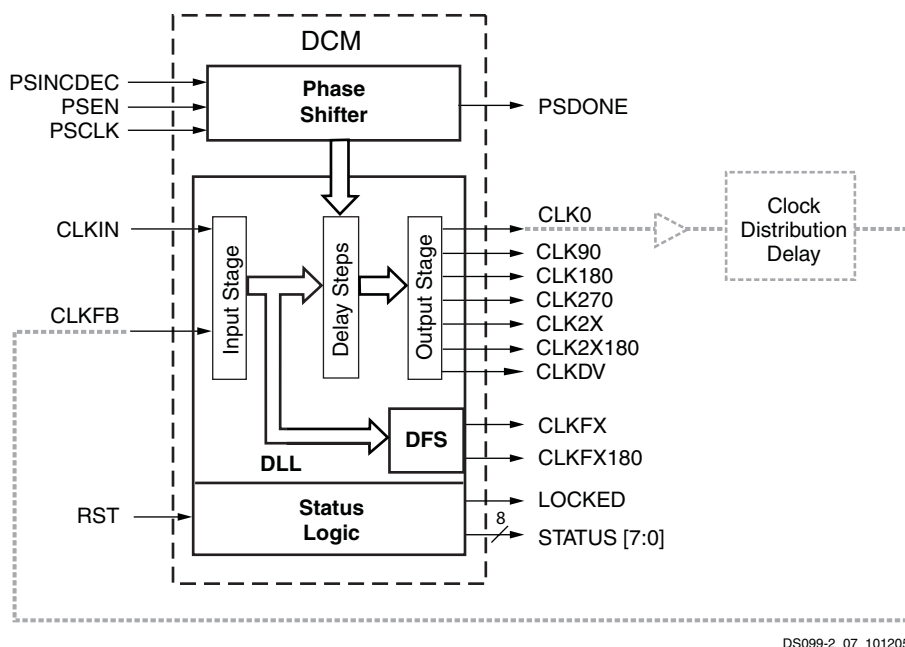

Figure 41: DCM Functional Blocks and Associated Signals
Although a single design primitive, the DCM consists of four interrelated functional units: the Delay-Locked Loop (DLL), the Digital Frequency Synthesizer (DFS), the Phase Shifter (PS), and the Status Logic. Each component has its associated signals, as shown in Figure 41.